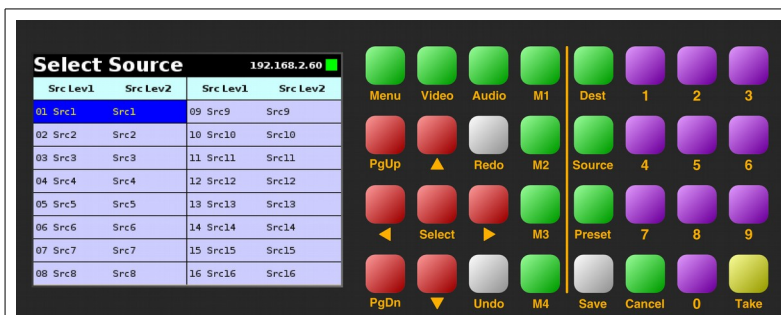

Figure 7: Routing Select Multi Level Source
- The **Select Source** page is shown with the currently connected source highlighted (Figure 7 - shown with both Video and Audio levels active).